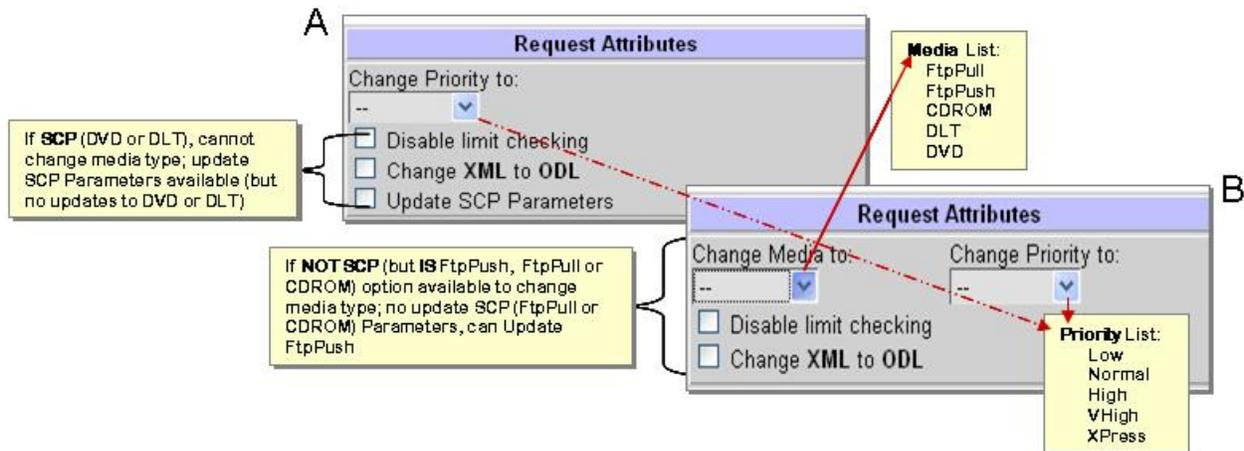

Figure 15.6-7. Request Attributes
- 14 Changing attributes (Figure 15.6-7 Request Attributes) of a granule will alter its characterization or features. Several changes to a granule attributes includes:
- **Update <media type> Parameters** – option allows for editing of existing selected media type when the intervention is closed. This option varies according to type of media e.g., if media type is SCP or FtpPush, this option is available; otherwise no action to update media parameters can be performed or is displayed. Example displays variation in Frames A and B of Figure 15.6-7 Request Attributes.